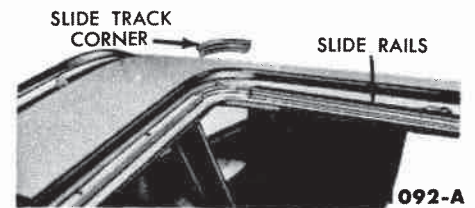

Fig. 11 - Sliding Roof Panel Track and Corner
When performing the following operations, refer to Figs. 11 and 12.
3. Remove the right and left hand front slide track corners by removing the four retaining screws (Fig. 11).